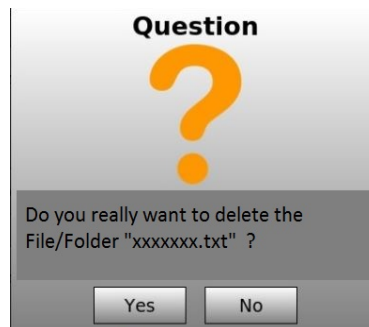

Figure 3-9 – New Folder Pop-up
10. Selecting this icon will open the dialog window (figure 3-9) for deleting the selected file(s)/folder within the internal storage.
13. Selecting this icon will open the dialog window (figure 3-9) for deleting the selected file(s)/folder of the external storage device.